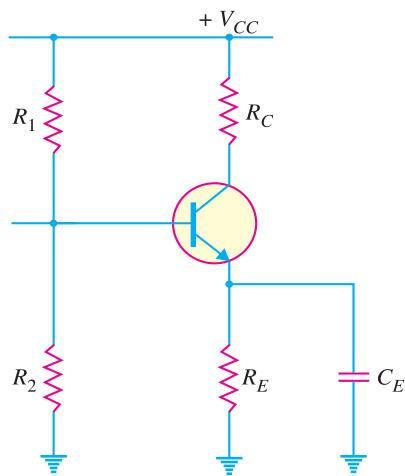

Fig. 9.35
**Example 9.29.** Fig. 9.35 shows the potential divider method of biasing. What will happen if